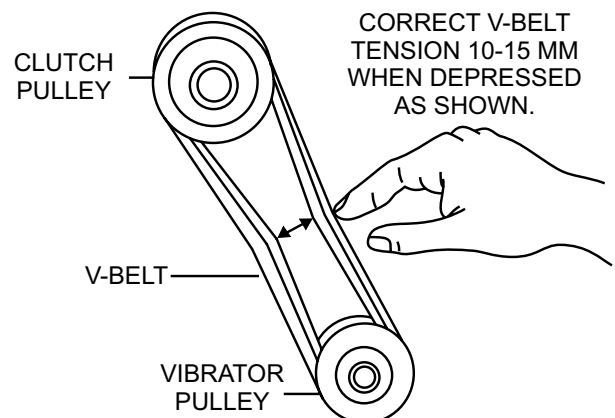

Figure 10. V-Belt Tension
1. The V-belt tension is proper if the V-belt bends 10 to 15 mm (Figure 10) when depressed with finger at midway between the clutch and vibrator pulleys.
- Place the engine **ON/OFF** switch (Figure 10) in the **OFF** position.